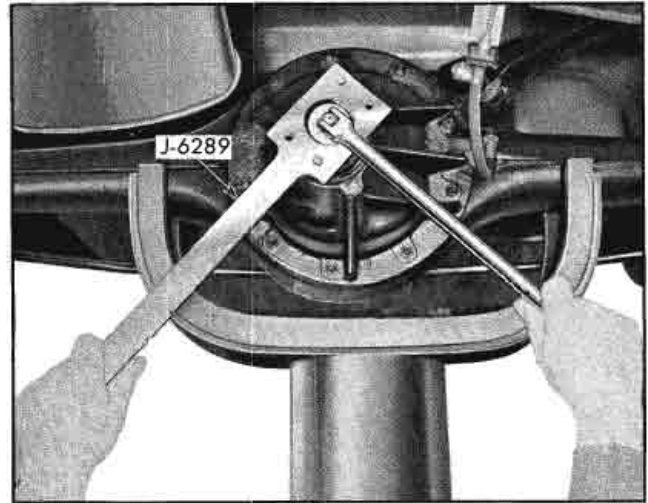

Fig. 4-12 Holding Companion Flange with J-6289
6. Count the number of exposed threads from the top of the pinion stem to the lock nut and remove the lock nut with a heavy duty socket while holding the companion flange with J-6289 (Fig. 4-12).